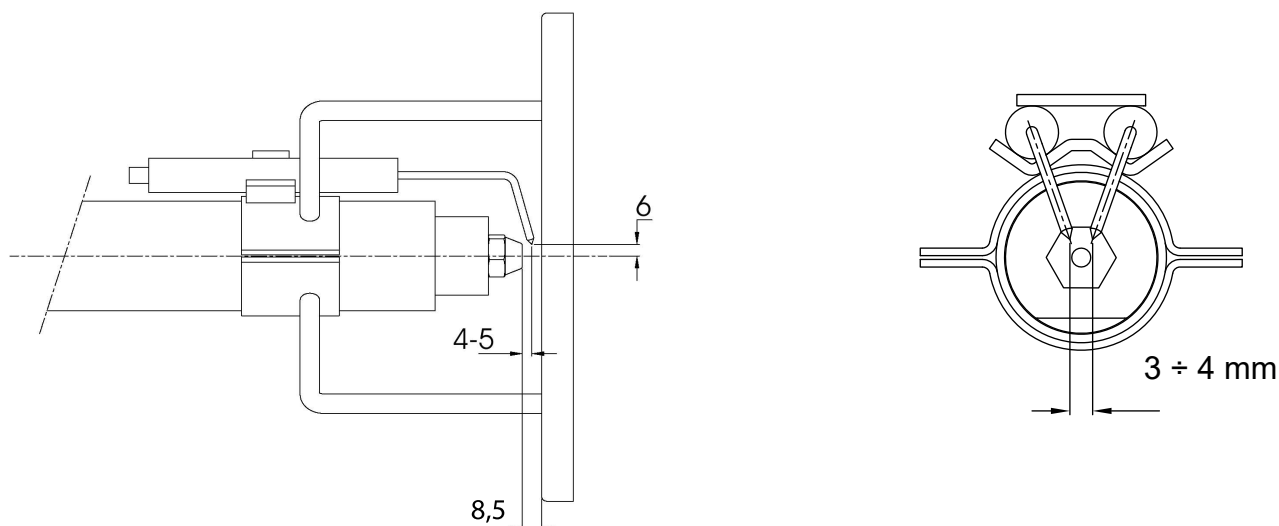

Fig. 17
To guarantee a good ignition the measures shown on the next picture Fig. 17 must be observed.
- 5 remove the electrodes and replace them, referring to the values quoted on Fig. 17.